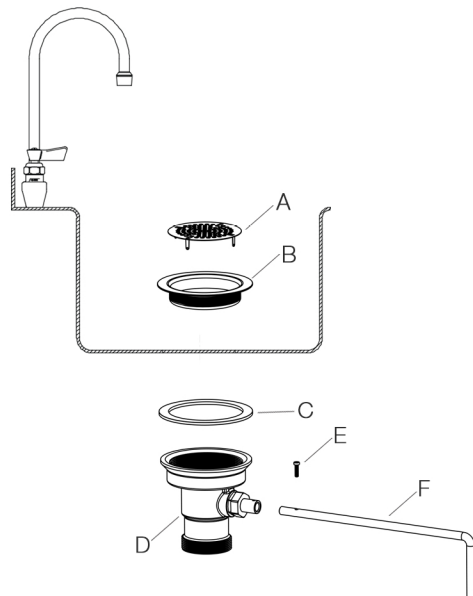

Figure 1
1. Keep the gasket (C) over the valve body (D).
2. Holding the gasket in place, butt the valve body against the bottom of the sink and tighten the clamping ring (B) into the valve body from inside of the sink with your hand. Note: As followed in usual plumbing practices, you may use a small bead of silicone in between the clamping ring and sink compartment.
3. Tighten the clamping ring using a spanning wrench. Note: the hole in the rotor arm must be facing the front of the sink as shown in Figure 1.
4. Place the handle (F) into the above said hole and attach with screw (E)